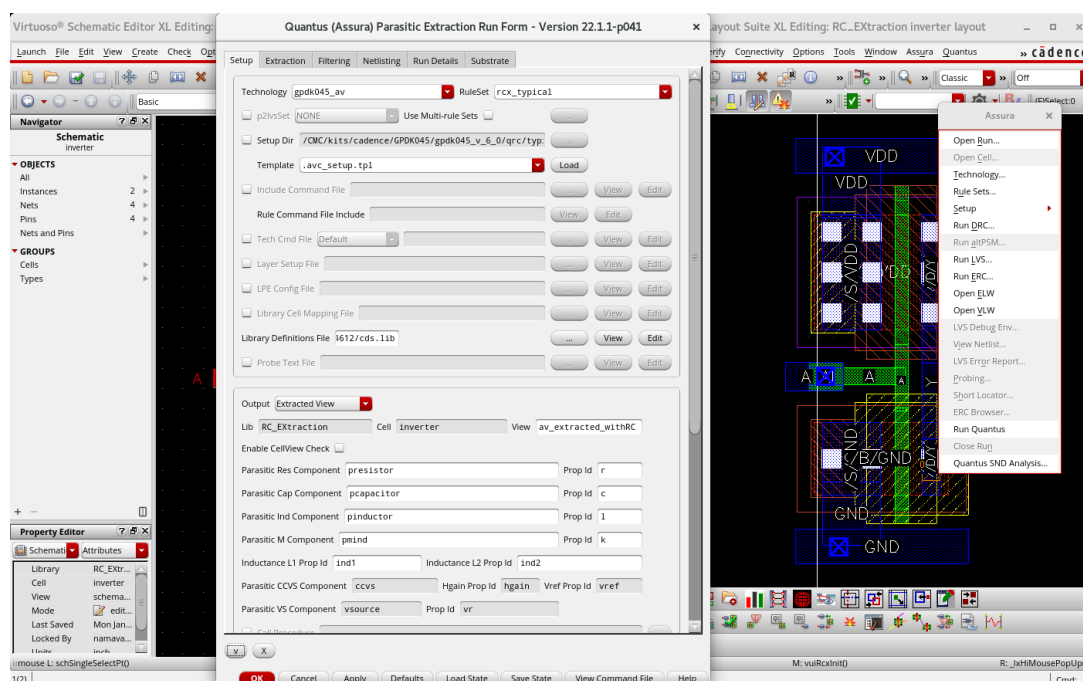

Figure 2: Quantus Parasitic Extraction Setup Tab. Ensure the correct template is selected.
2. This will open the Quantus Parasitic Extraction form, as shown in Figure 2.
3. Ensure the correct **Template** is selected. In this case, choose .avc_setup.tpl, as highlighted in Figure 2.